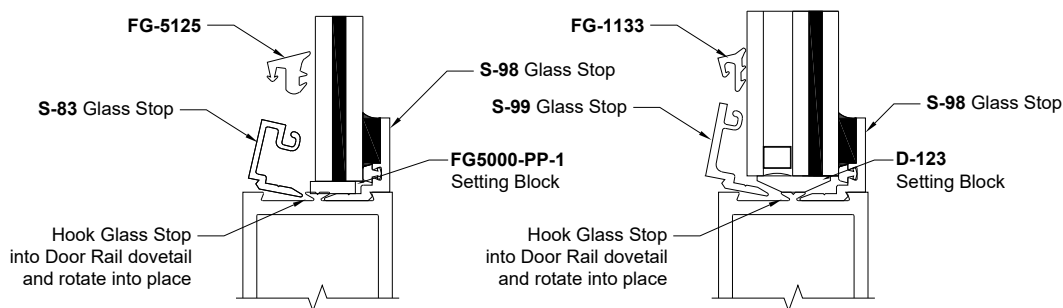

Figure 25: Installing Glass Stop
11.4.4 Install the **S-83/S-99** Glass Stop into the horizontals. Hook the stop into the dovetail on the door rail and rotate into place, as shown in *Figure 25*.